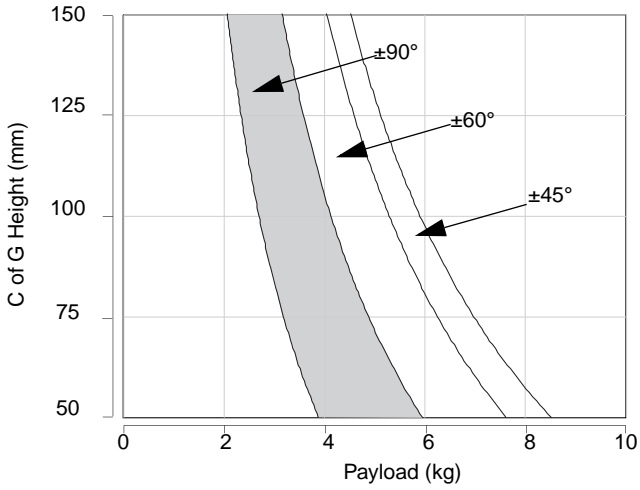
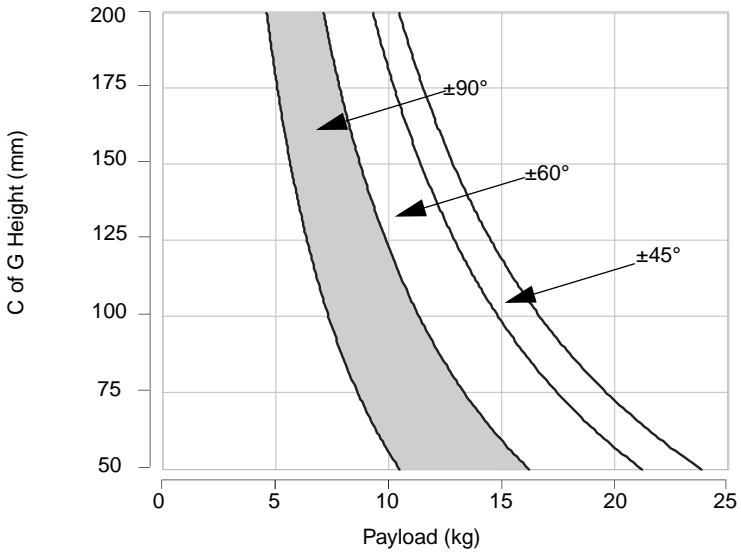

Fig. 8 Vision 3AS balance graph
Fig. 11 Vision 10AS balance graph
The AS head provides infinitely adjustable balance, allowing operators to adjust the amount of counter balance required using the Perfect Balance control (3) located on the right-hand-side of the head. Maximum and minimum payloads that can be balanced are dependent on the weight of the camera and accessories fitted, and on the centre of gravity (C of G) height. The balance graphs (Fig. 8 to Fig. 11) illustrate the range of load and C of G height that can be maintained in balance.
Balance graphs (Fig. 8 to Fig. 11) illustrate the relationship between load and Centre of Gravity (C of G) height for each Vision AS pan and tilt head. The balance graphs can be used to ascertain the suitability of the head for any given combination of camera, lens and accessories. The shaded area of graph corresponds to those load/C of G combinations that can be balanced over the full tilt range. The areas to the right indicate the progressively reducing tilt range with greater load and higher C of G. Where a load/C of G combination falls outside of the graph it will be necessary to increase or decrease the weight or the C of G height to enable the head to balance the load.
NOTE: Maximum tilt angle is less than 90° for heavy payloads with a high C of G - refer to the balance graphs (Fig. 8 to Fig. 11).